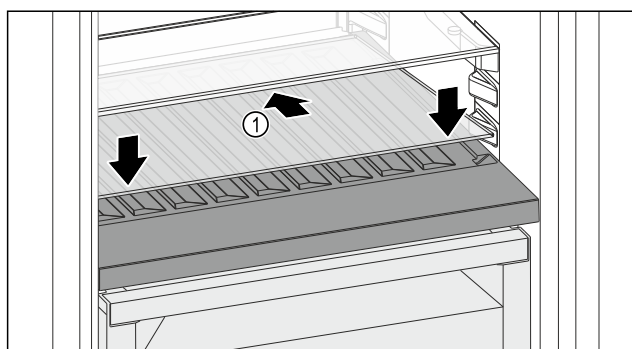

Fig. 151
- Place the glass shelf Fig. 151 (1) at an angle, sloping it downwards and backwards.
- Lower the glass shelf Fig. 151 (1) at the front.